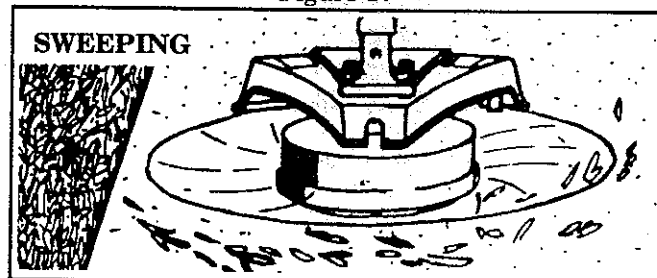

Figure 18
4. **SWEEPING** – Figure 18. The fanning action of the rotating line can be used for a quick and easy clean up. Keep the line parallel to and above the surfaces being swept and move the unit from side to side.